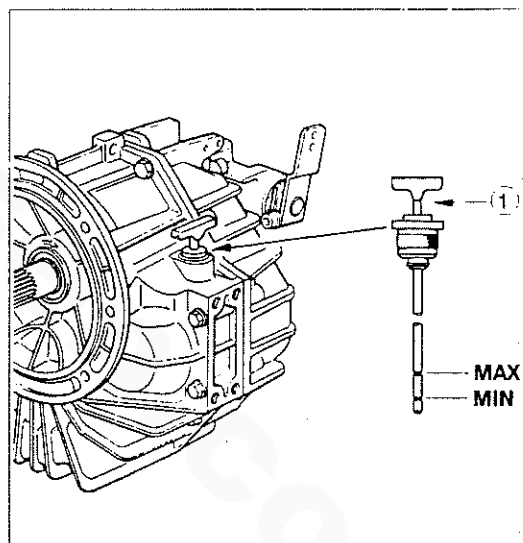

Figure V-2
1.6 Stop the engine and check fluid level again. If necessary, top fluid level up to the dipstick max. mark. The fluid level on the dipstick (figure V-2, item 1) should be between the min. and max. marks. The fluid levels should be checked again after a short period of vessel use.
The fluid level on the dipstick (figure V-2, item 1) should be between the min. and max. marks. The fluid level should be checked again after a short period of operation.